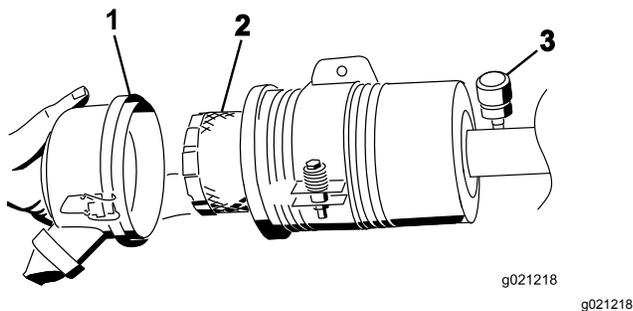

Figure 71
- Remove and replace the filter (Figure 71).